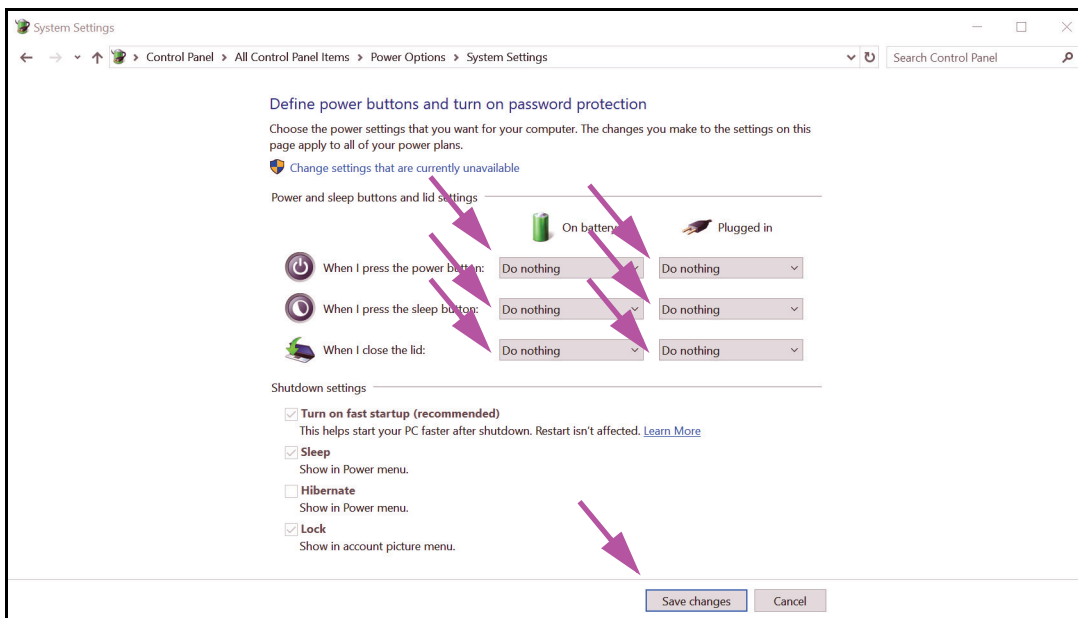

Figure 2-11. System Settings Window
10. **Laptops Only:** On the Power Options window, click the **Choose what closing the lid does** entry. The System Settings window appears (see Figure 2-11). Set all settings to **Do nothing** and click **Save Changes**.